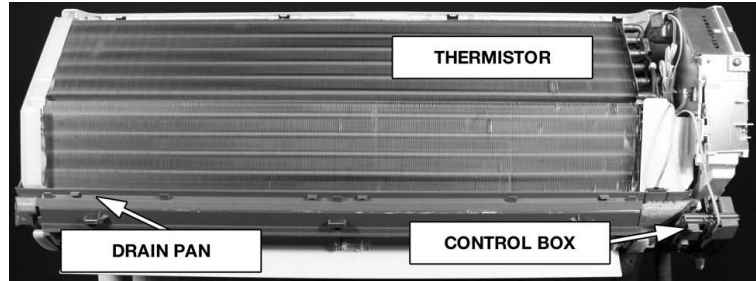

Fig 2: Typical indoor unit with cover removed
1. Remove front cover of indoor unit in order to expose the coil and the control circuit area of the unit (Fig 2). The disassembly of the front cover, air filters, and possibly electrical shields will vary according to style of indoor unit installed. See the Mitsubishi Electric's Technical Manual for detailed disassembly and details.